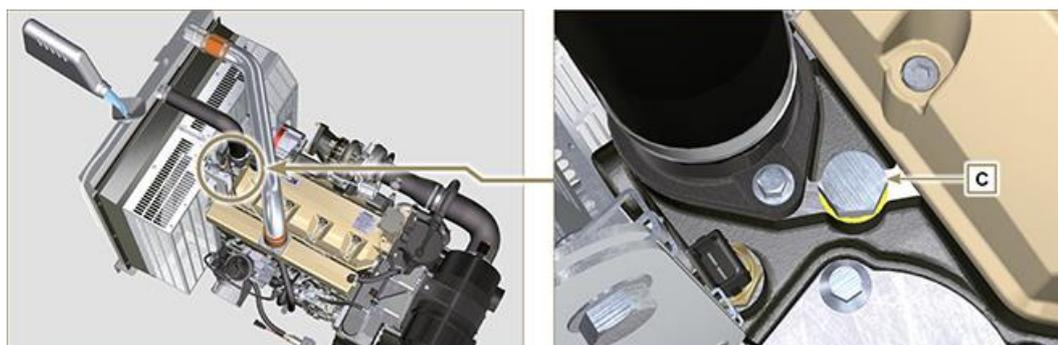

Fig. 4.5
4. Loosen the screw **C**, release any air and tighten the screw C (Tightening torque of **50 Nm** - Fig. 4.5).